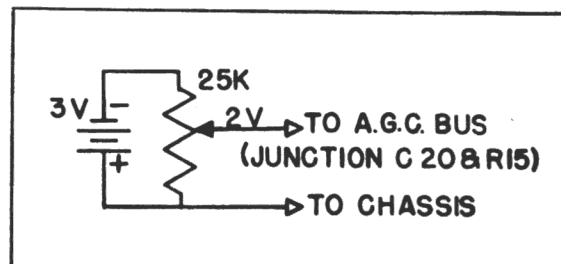

Figure No. 6. Test Voltage Supply
3. Connect a negative supply of 2 volts to the A.G.C. bus (junction of C-20 and R-15) and chassis. This supply can be obtained by connecting two 1-1/2 volt batteries in series as shown on Figure No. 6.